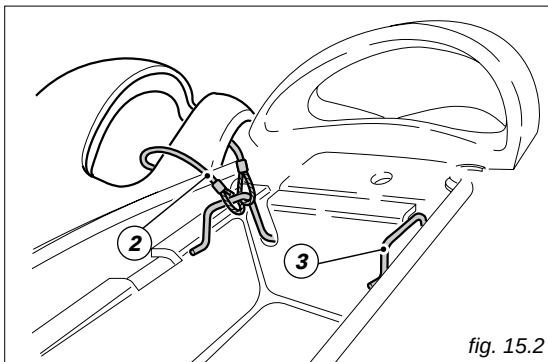

fig. 15.2
On the rear end of the compartment underneath the seat, there is the helmet fastening cable (2) (see page 40). Insert the cable into the helmet and insert the ends of the cable into one of the two hooks (3). Leave the helmet hanging outside (fig. 15.2) and refit the seat.